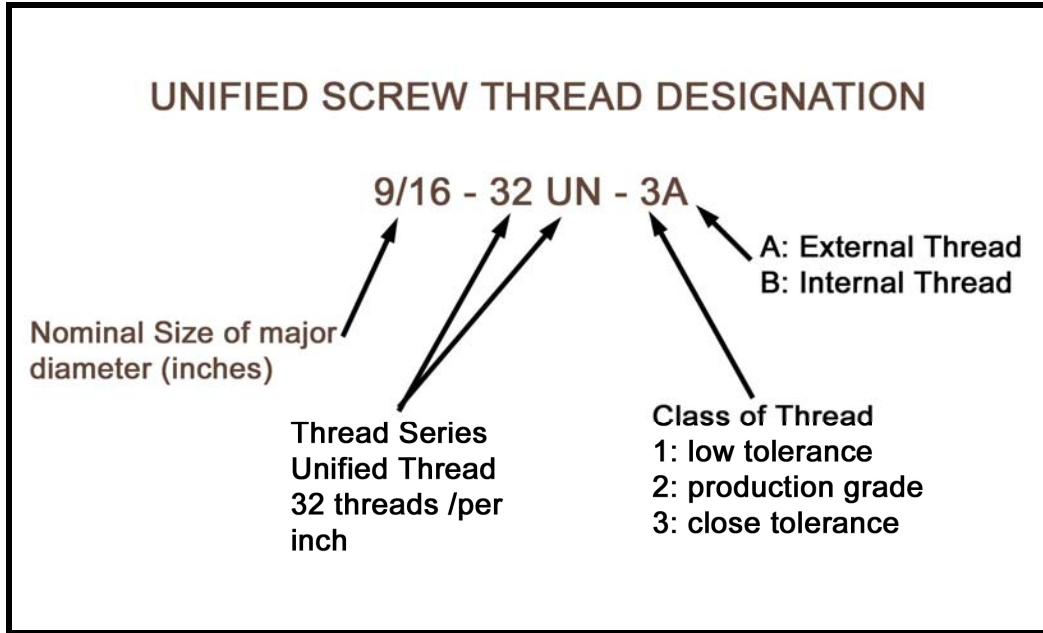

Figure 3: Understanding the Screw Thread Designation
Referring to Spreadsheet 1, note that for the gas cylinder lock screw the “new” 9/16 – 32 UN 3A **Unified Screw Thread** designation is exactly the same as the “old” **American National** standard used before, during and after WWII. However, for the gas cylinder, there are some slight differences between the old and new standards – the differences do not appear large enough to the author to damage the gas cylinder threads or make the gas cylinder unusable. Then again, the author has not tried it yet! The differences between the old and new standards do result in a: (1) slight variation of tolerances with size (i.e., Spreadsheet 1: gas cylinder differences); (2) difference in allowable pitch diameter tolerance (see below) on both external and internal threads; and (3) as we’ve seen in Figure 3, update the thread designations used. A special note about the “Class of Thread”; be aware that 3A or 3B class threads are commonly found in high vibration, rotating machinery, or thin wall special applications. There is good reason why this thread designation was used for the high pressure and high vibration application found in your M1 rifle gas cylinder and lock screw!